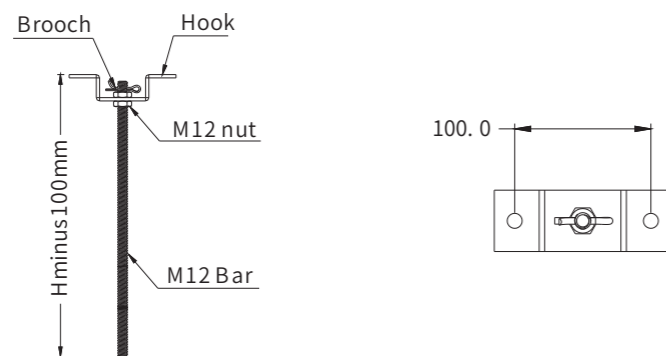

Figure 3
2. This screen equips bracket, and build up the hanging bracket using the hook, M12 nut and M12 bar. Cut the length of M12 bar to H minus 100mm (H is the distance between concrete roof and ceiling surface) (Note: H is 500mm, the length of hanging bracket is 400mm which is 500mm minus 100mm) (figure 3).